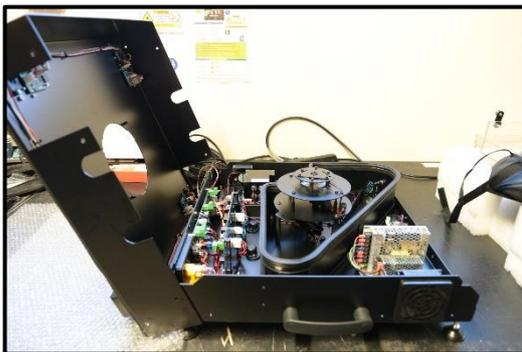

FIGURE 31 : REMOVING THE UPPER PART (2/3)
- After the top part is unscrewed, pull it up to remove it. You must pay attention to the Earth wire (1)
- Do not put the top part as shown on figure 31 on its side, and place the cover on a soft surface.